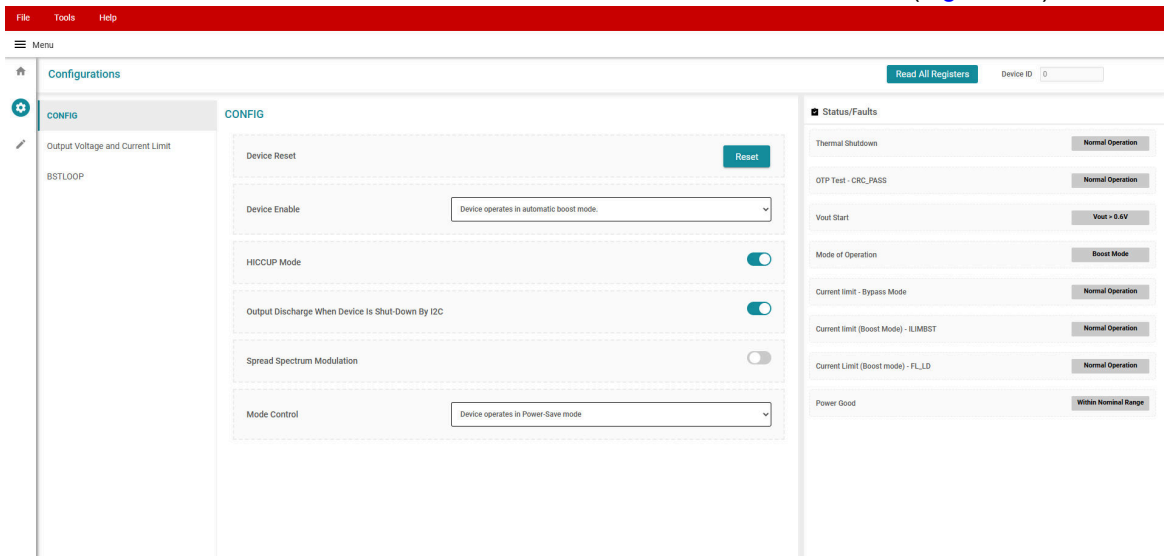

Figure 3-3. GUI User Interface of TLV61290EVM-076
- Click the **Start** button. This shows the GUI user interface of TLV61290EVM-076 (Figure 3-3).